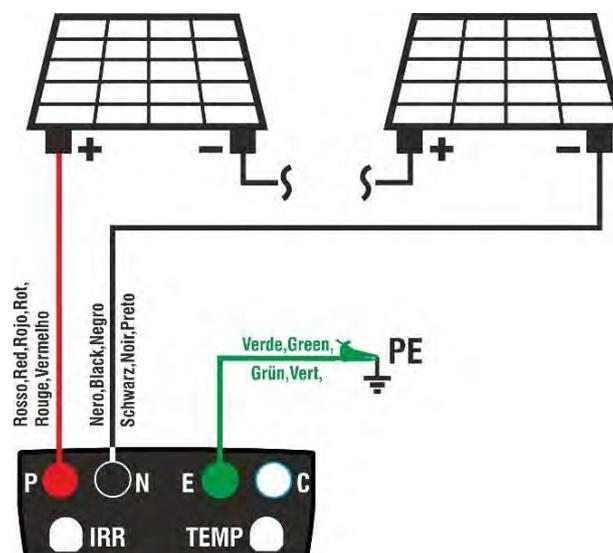

Fig. 9: Instrument connection for insulation measurement in GFL mod
- Connect the instrument to the PV string to be tested as shown in Fig. 9. **Please remember that it is also necessary to separate possible overvoltage protections connected to the cables of the string, and that it is recommended to measure upstream of possible blocking diodes.**